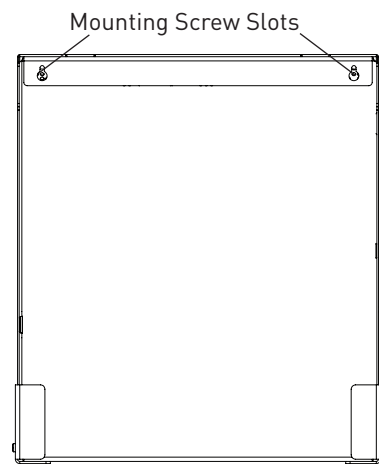

Figure 2
2. When mounting the Conserv 75S System on a wall, two (2) screws are required to mount the unit. The two (2) screws will be 14" (35.6 cm) apart and level. Screw the two (2) screws into the wall. Leave a gap between the screw head and the wall of 1/8". The backside of the unit has two (2) slots that will fit over the screw heads and slide down to lock (Figure 2).